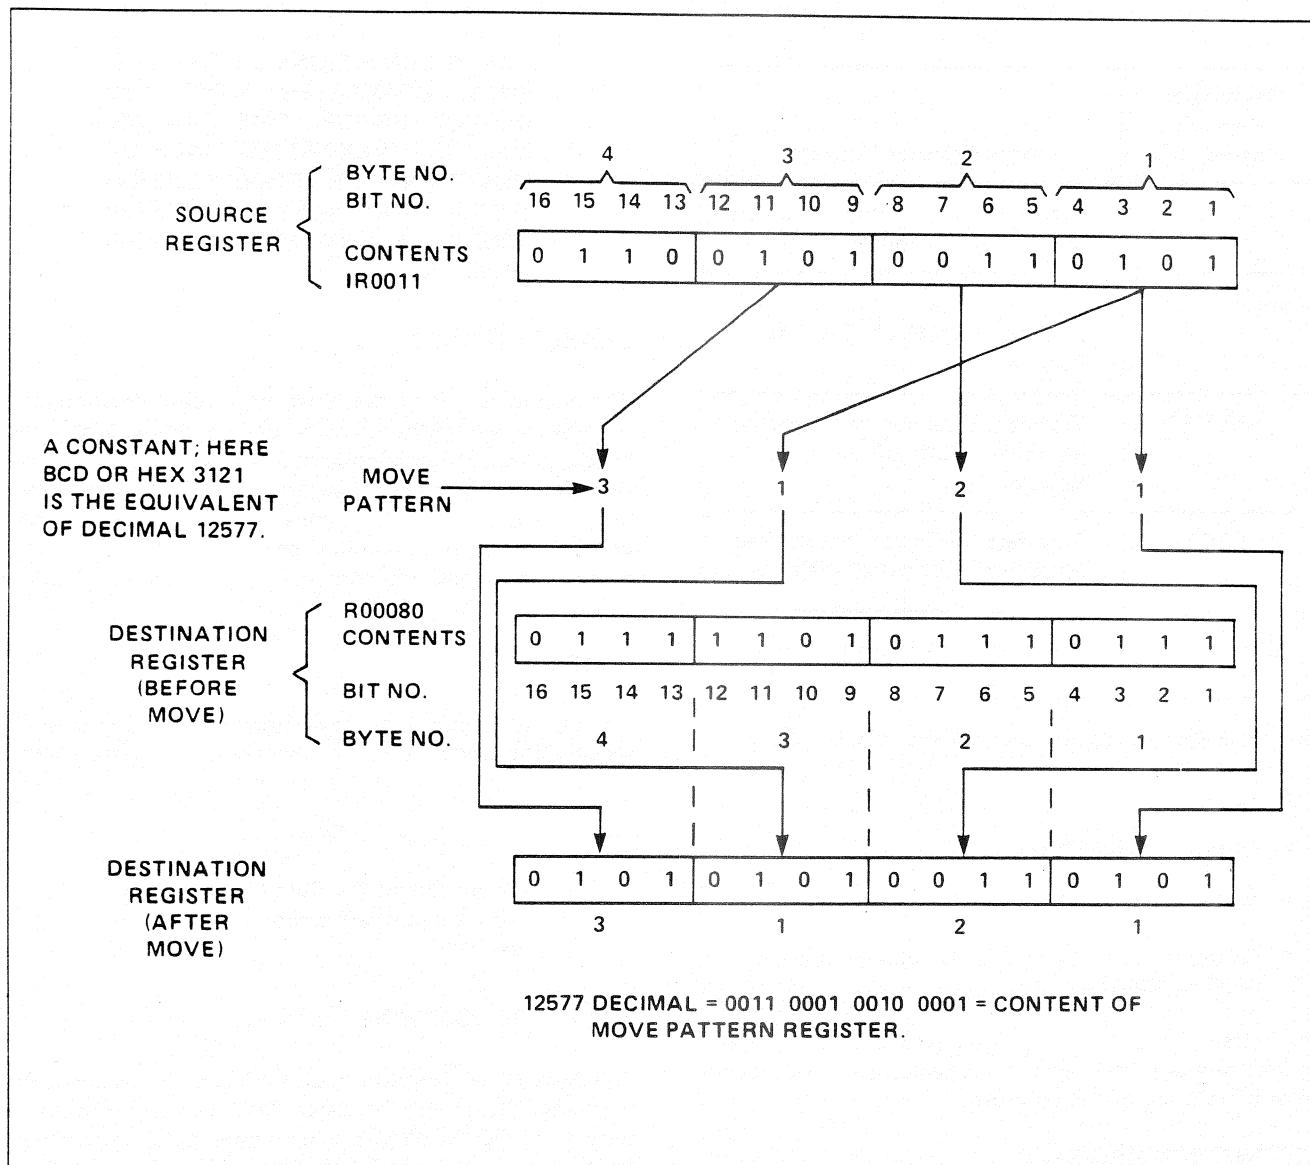

Figure BYM-2. Byte Move Example
3. The value actually stored in the Destination Register is a binary number which represents the current states of the individual bits, as shown in Figure BYM-2.
Register. For Figure BYM-2, the Move Pattern is entered and displayed as decimal 12577, which is the equivalent of BCD or hexadecimal 3121. The actual content of the Move Pattern Register is, of course, binary: 0011 0001 0010 0001.
When the reordering of all 4 bytes is desired, the range of available BCD numbers is 1111 thru 4444. If it is not desired to change a value during the transfer, the digit 0 is used in one or more places. (Data in the corresponding byte of the Destination Register is held at its last value.) Should a digit above 4 be used, values in the Destination Register's corresponding byte are also held in their last states. As shown in Figure BYM-2, if identical data is required in 2 or more bytes of the Destination Register, a digit may be reused as, for example, in the Move Pattern (3121).